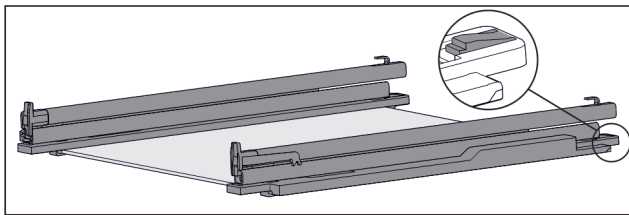

Fig. 99 Glass shelf with rails and retaining parts
- ▶ Press down retaining part at the rear (see Fig. 99) and at the same time push the rail back.